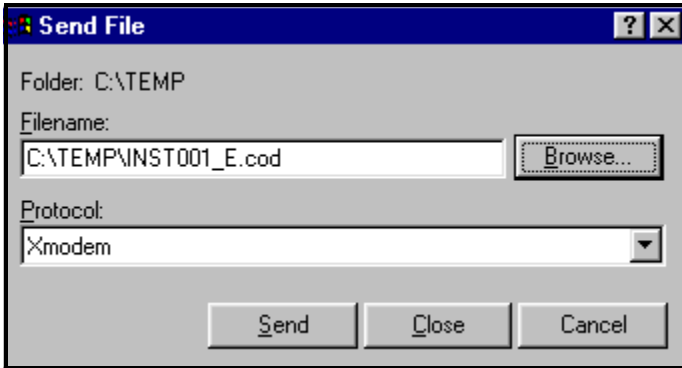

Figure 9-32: The Send File Window in the Transfer Menu
1. In the Hyperterminal window, pull down the Transfer menu and click *Send File*. A window opens similar to Figure 9-32 below.